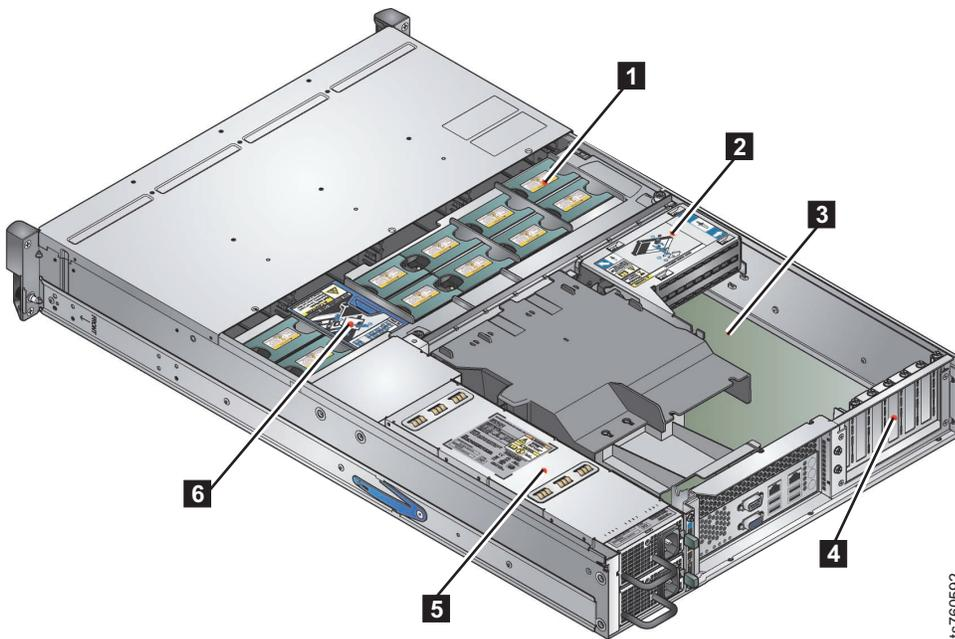

Figure 36. Location of boot drive assembly
4. See Figure 36 on page 62 where **2** shows the location of the boot drive assembly within the chassis.